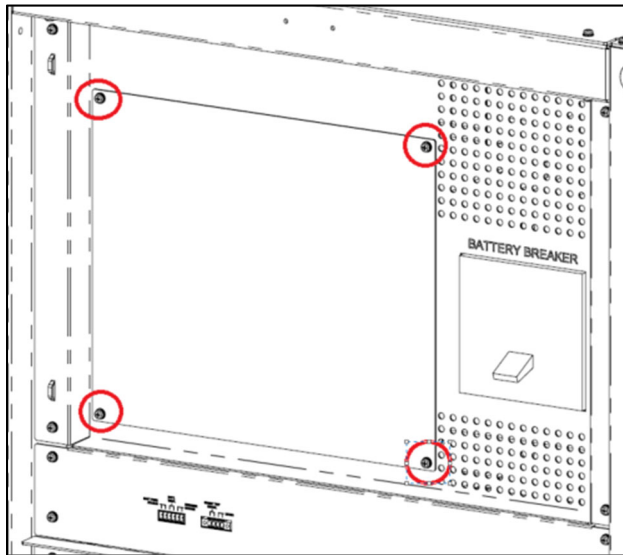
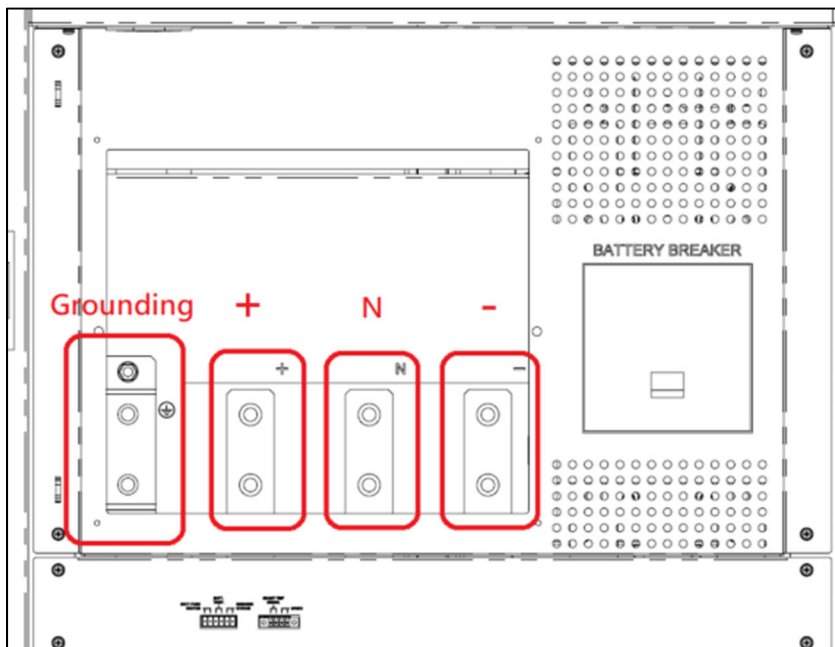

Figure 10: wiring terminal cover_screw location
Figure 11: wiring terminals
- (2) Please remove the wiring terminal cover (see **Figure 10**), and you will see the wiring terminals shown in **Figure 11**.